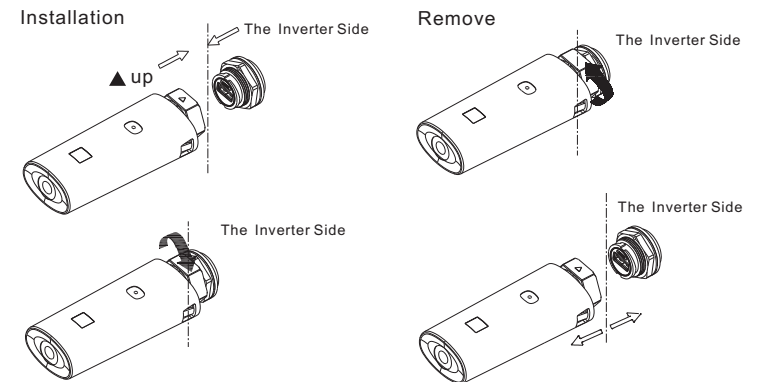

Fig 6.8B
- 3> As shown in Figure 6.8B, make sure that Δ is on the front side, plug the monitoring module to USB_A port, and tighten the screws.